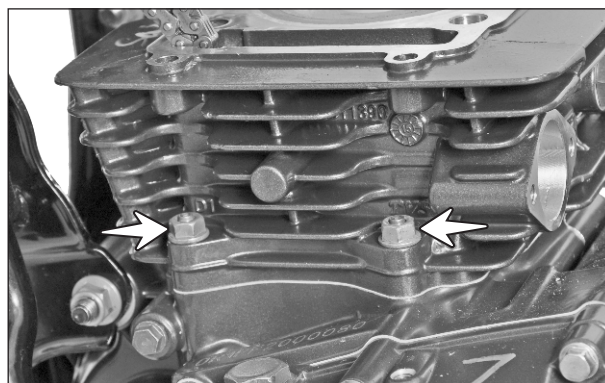

Fig. 3.79
- Remove the hexagonal flange nut (M6 - 2 nos.) from the mounting cylinder block with the crankcase. (Fig. 3.79)